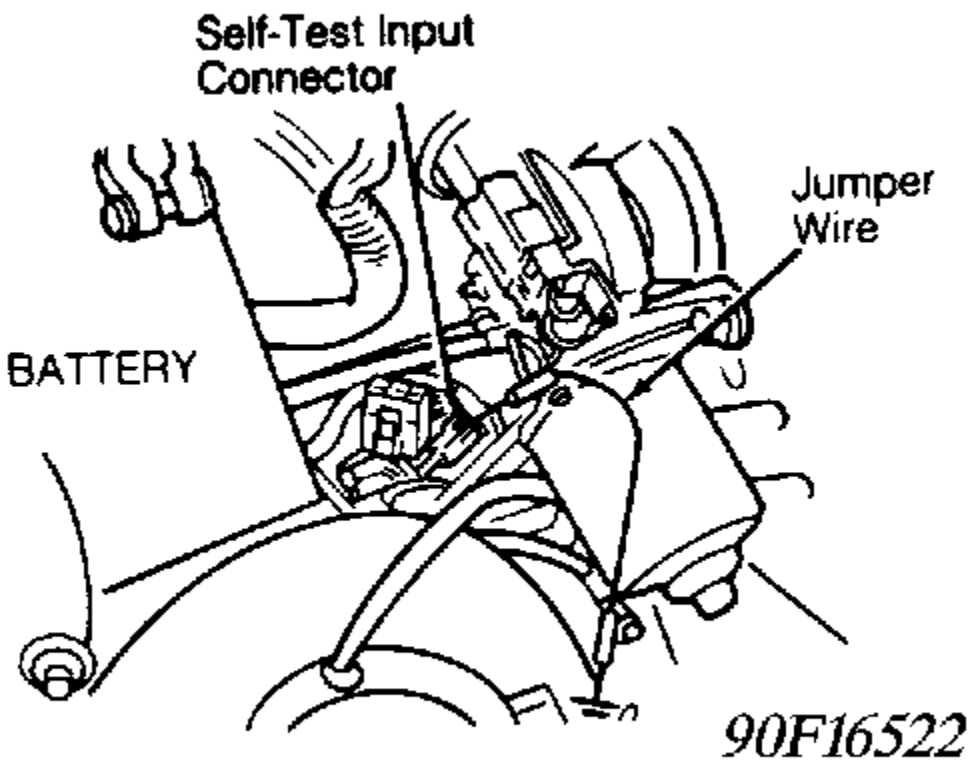

Fig. 1: Locating Self-Test Input (STI) Connector
1. Place manual transmission in Neutral or automatic transmission in Park. Turn all accessories off. Locate one-wire STI (Black) connector near master cylinder. Using a jumper wire, connect STI terminal to ground. See Fig. 1 . Connect timing light and tachometer.
- Turn off all accessories. Place automatic transmission in Park or manual transmission in Neutral. Set parking brake. Connect tachometer to engine. Warm engine to normal operating temperature. Connect a jumper wire between single-wire STI test connector (Green on Capri; Black on Festiva) and ground. See Fig. 1 .